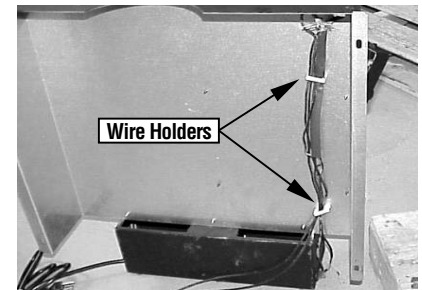

Figure 12
- Stow wires into existing wire holders on the inside of rear shroud. See Figure 12.